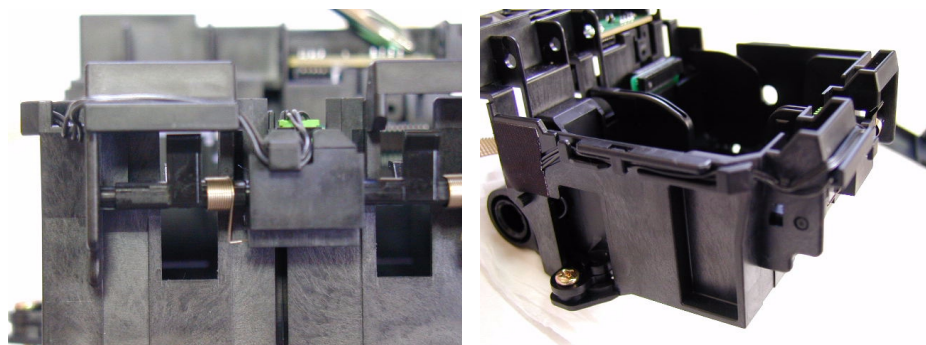

Figure 4-52. Placing the I/C Detector Cables
- Ensure that the I/C Detector Cables are placed along the gutters as Figure 4-52.